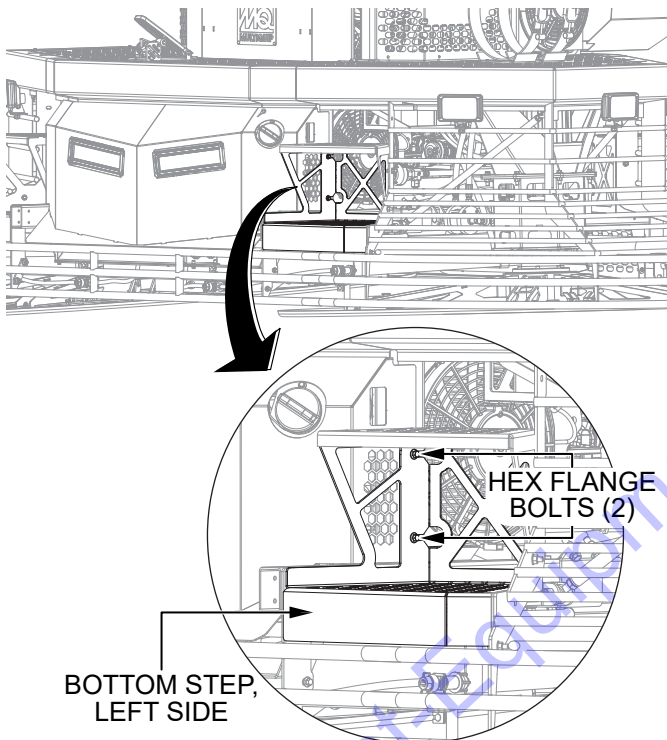

Figure 63. Step Removal
1. Loosen the two hex flange bolts securing the bottommost front left step (Figure 63) to the frame. Remove the step and set it aside.